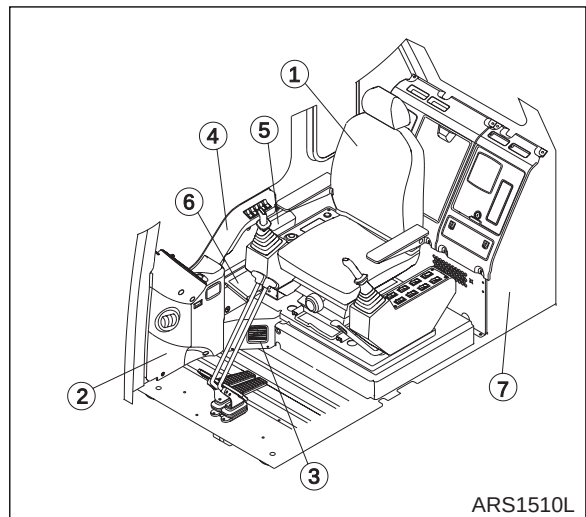

Figure 2
9. Remove operator's seat (1, Figure 2).
10. Remove duct covers (2, 3 and 4, Figure 2). When removing cover (2) disconnect hour meter connector and cigar lighter connector. Disconnect main harness connector before removing cover (4).
11. Removing pocket (5, Figure 2) before removing side panel (6, Figure 2).
12. Remove air duct (1, 2 and 3, Figure 2) located at right side of cab. Disconnect duct wiring connector before removing duct (2).
19. Disconnect cabin ground cable (7, Figure 2).